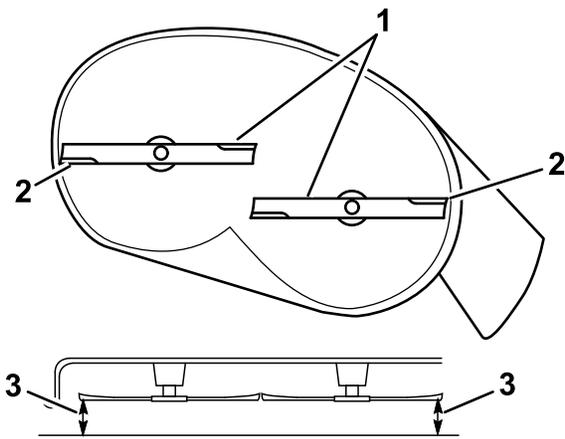

Figure 68
- Measure between the outside cutting edges and the flat surface (Figure 68).